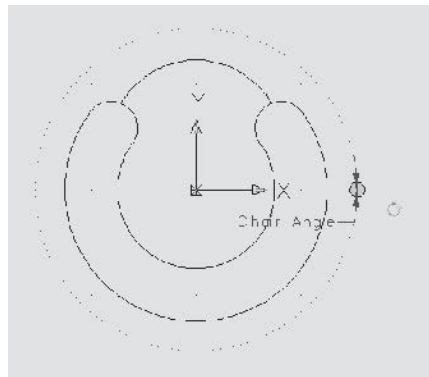
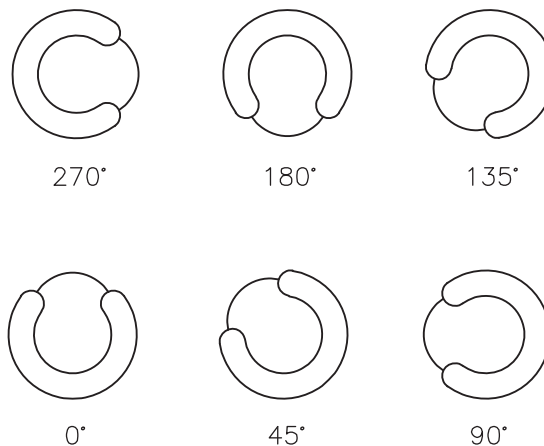

Fig. 34-11
Fig. 34-12
1. Open the **chair.dwg** file, which you created in Chapter 17. Delete all but one of the chairs. Make a block named **chair**, using the center of the circles as the base point. Save the drawing as **dynchair.dwg**. Create a rotation parameter and action. Rename the parameter **Chair Angle**. Your dynamic block should look like the one in Fig. 34-11. Insert six of the chair blocks into the drawing. Use dynamic rotation to rotate the individual chairs to the angles specified in Fig. 34-12.